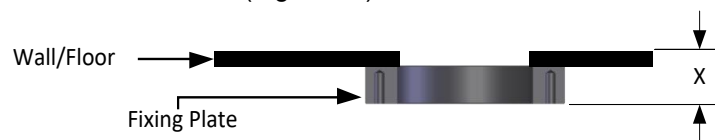

Figure 27: Measuring the Insertion Depth
1. Once the Fixing Plate has been welded into position over the appropriately sized hole, the distance from the external face of the Fixing Plate to the internal wall (x) should be measured (Figure 27).